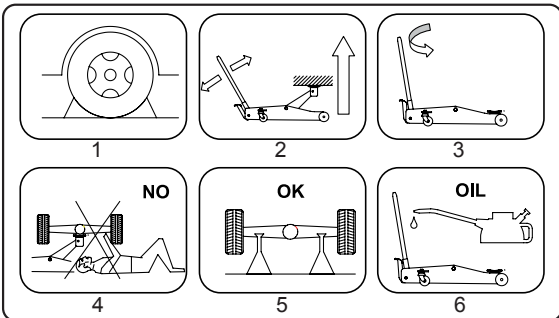

Fig. 05
- Make sure that no person stays in the car that will be lifted. Turn off the engine and put on the handbrakes of the car. Use wedges to prevent the car from moving (Fig.05(1)). Do not get into the car and do not turn the engine on.
- Always position the lifting jack in such a way that it cannot be operated from underneath the car (Fig.05(4)).
- Use the lever rod or the foot pedal to bring the lifting device to the desired height (Fig.05 (2)). Make sure that the hydraulic valve is closed. For this purpose it is necessary to fasten the lever rod clockwise. Please note, that the foot pedal is mainly used to bridge the no-load stroke.
- In order to lower the load turn the lever rod slowly anticlockwise (Fig.05(3)).
⚠ WARNING Never use the lifting jack in order to move the car or to leave it lifted. Always use chassis stands (Fig.05(5)).